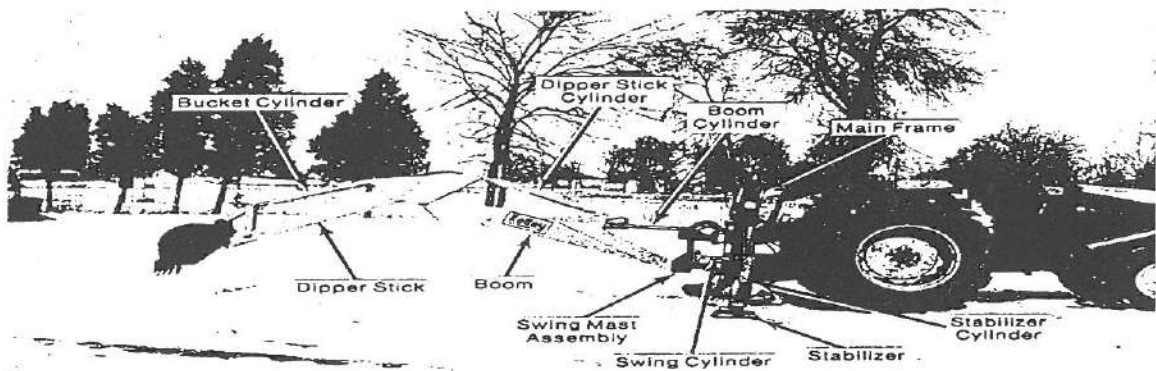

Figure 3: Description of Major Backhoe Parts
8. Familiarize yourself with all of the terms that will be employed in the following instructions by studying Figure 3-Description of Major Backhoe Parts